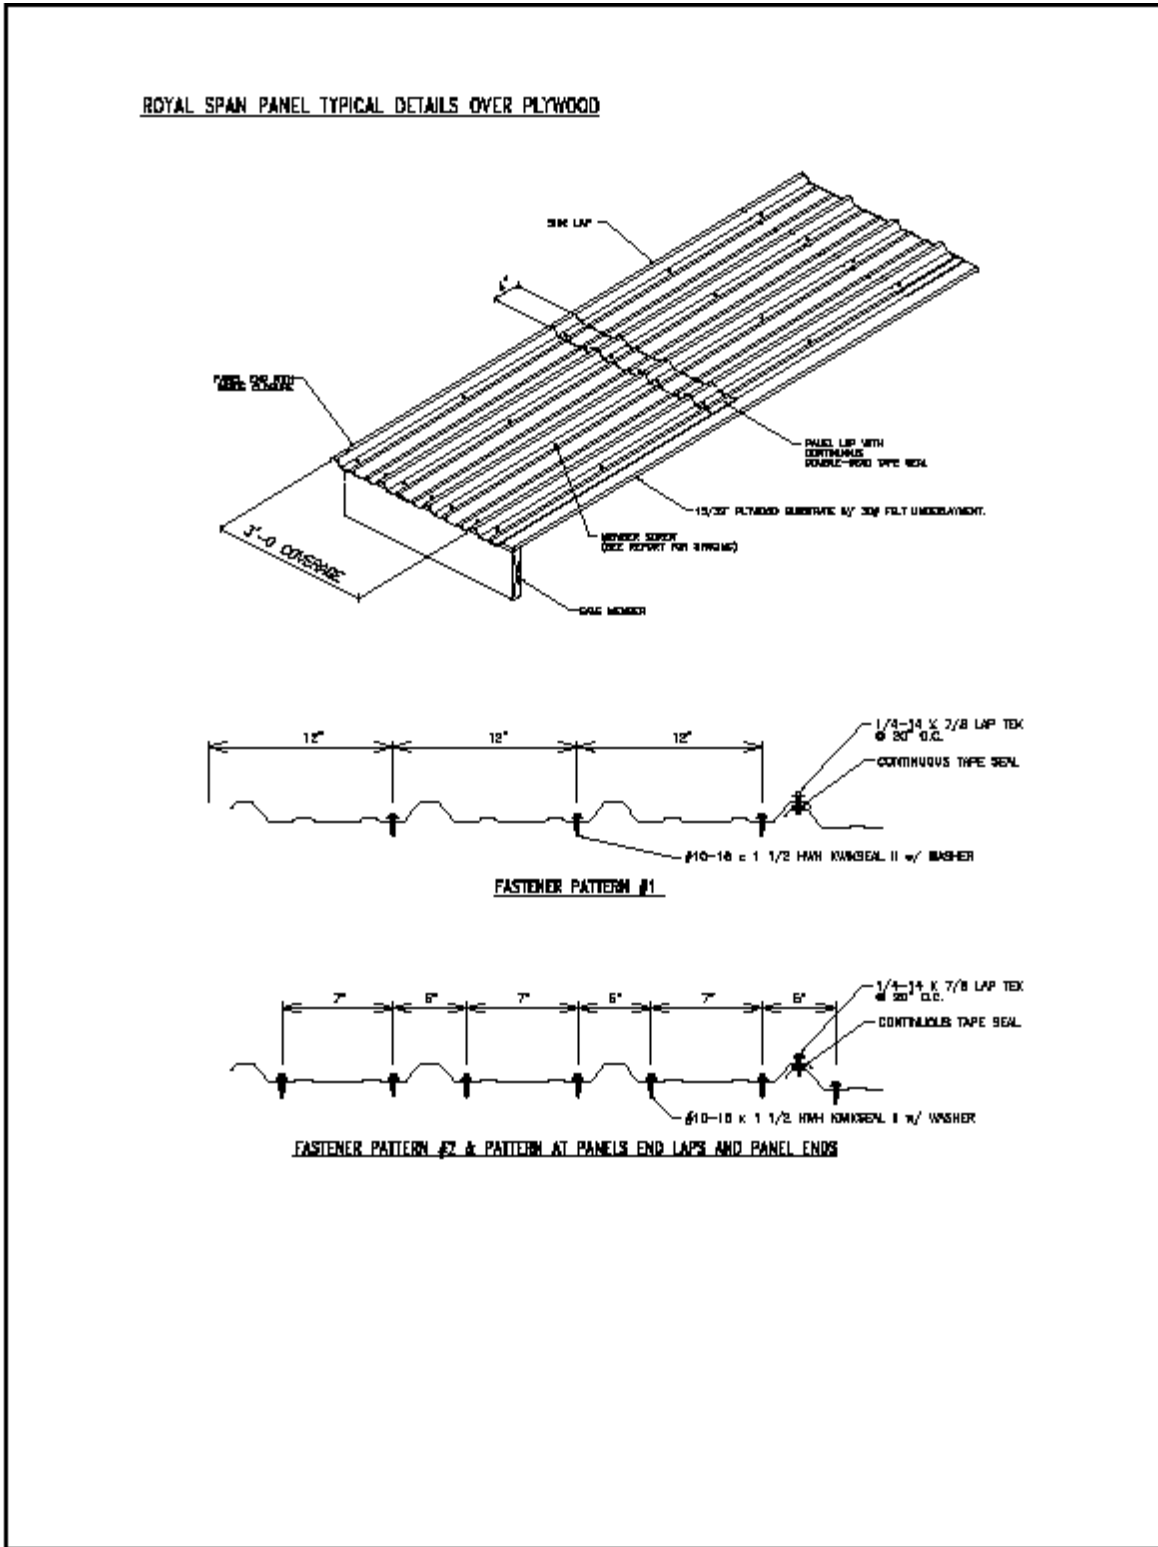
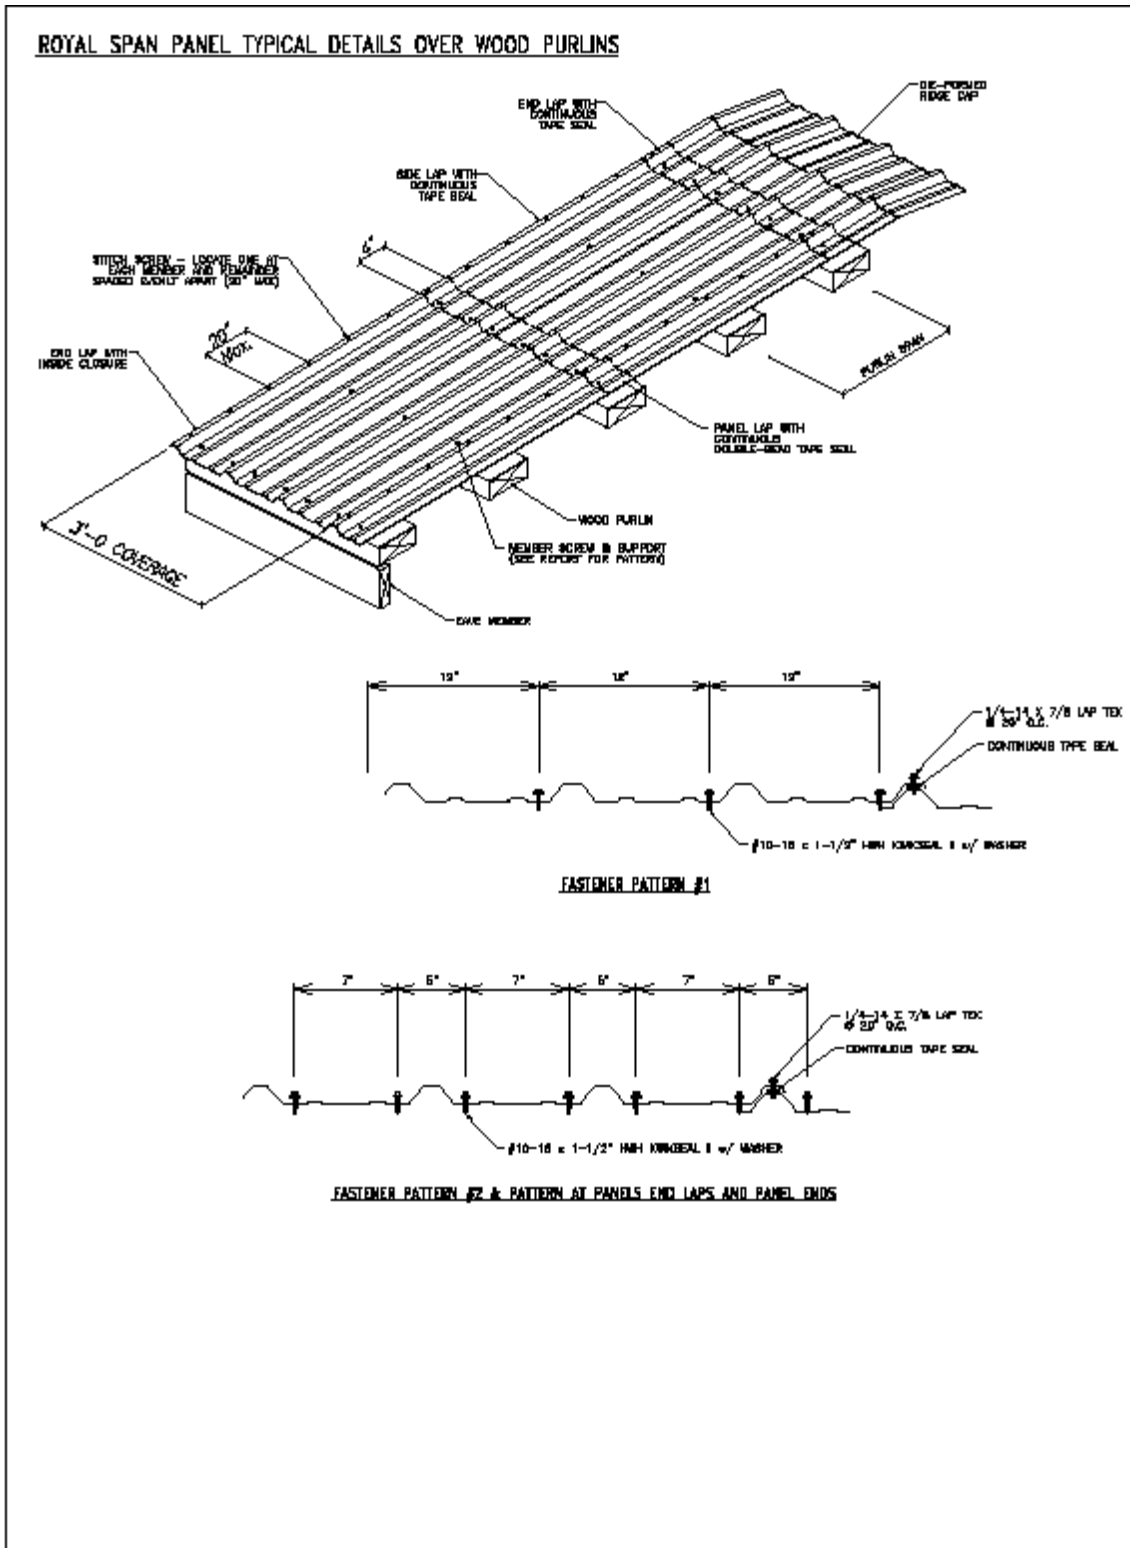

Figure 1. Royal Span Panel Secured to Minimum 15/32" Plywood
Figure 2. Royal Span Panel Secured to Wood Purlins
-41.7 psf	Fastener Pattern #1 @ 24" o.c.	Two (2) No. 8 x 3"
-138.5 psf	Fastener Pattern #2 @ 12" o.c.	Two (2) No. 8 x 3"
**Metal Roofing Panels to the Plywood Deck:** Minimum #10-16 x 1-1/2" Kwikseal II Woodbinder screws, manufactured by Sealtite. The fasteners must be long enough to ensure a minimum penetration of 1/4" below the wood deck. (Note: if the metal roofing panels are installed over an existing roof covering, then the fastener length must be increased so that the fasteners are long enough to a minimum penetration of 1/4" below the existing roof deck). The required fastener pattern must be as specified in Table 1. An illustration of each fastener pattern is shown in Figure 1.
**Metal Roofing Panels to the 1x4 Purlins:** Minimum #10-16 x 1-1/2" Kwikseal II Woodbinder screws, manufactured by Sealtite. The required fastener pattern must be as specified in Table 2. An illustration of each fastener pattern is shown in Figure 2.
**Metal Roofing Panels to the 2x4 Purlins:** Minimum #10-16 x 1-1/2" Kwikseal II Woodbinder screws, manufactured by Sealtite. The required fastener pattern must be as specified in Table 3. An illustration of each fastener pattern is shown in Figure 2.
**Panel Ends and End Laps:** Minimum #10-16 x 1-1/2" Kwikseal II Woodbinder screws, manufactured by Sealtite. Fastener Pattern #2 as specified in Tables 1-3 must be used. Refer to Figure 1 and Figure 2 for illustrations of Fastener Pattern #2. For solid wood decks, the fasteners must be long enough to ensure a minimum penetration of 1/4" below the wood deck. (Note: if